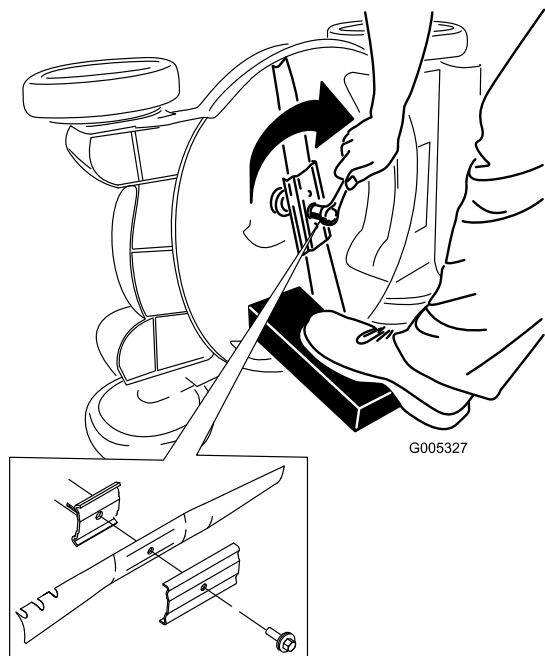

Figure 48
5. Install the new blade and all mounting hardware (Figure 48).